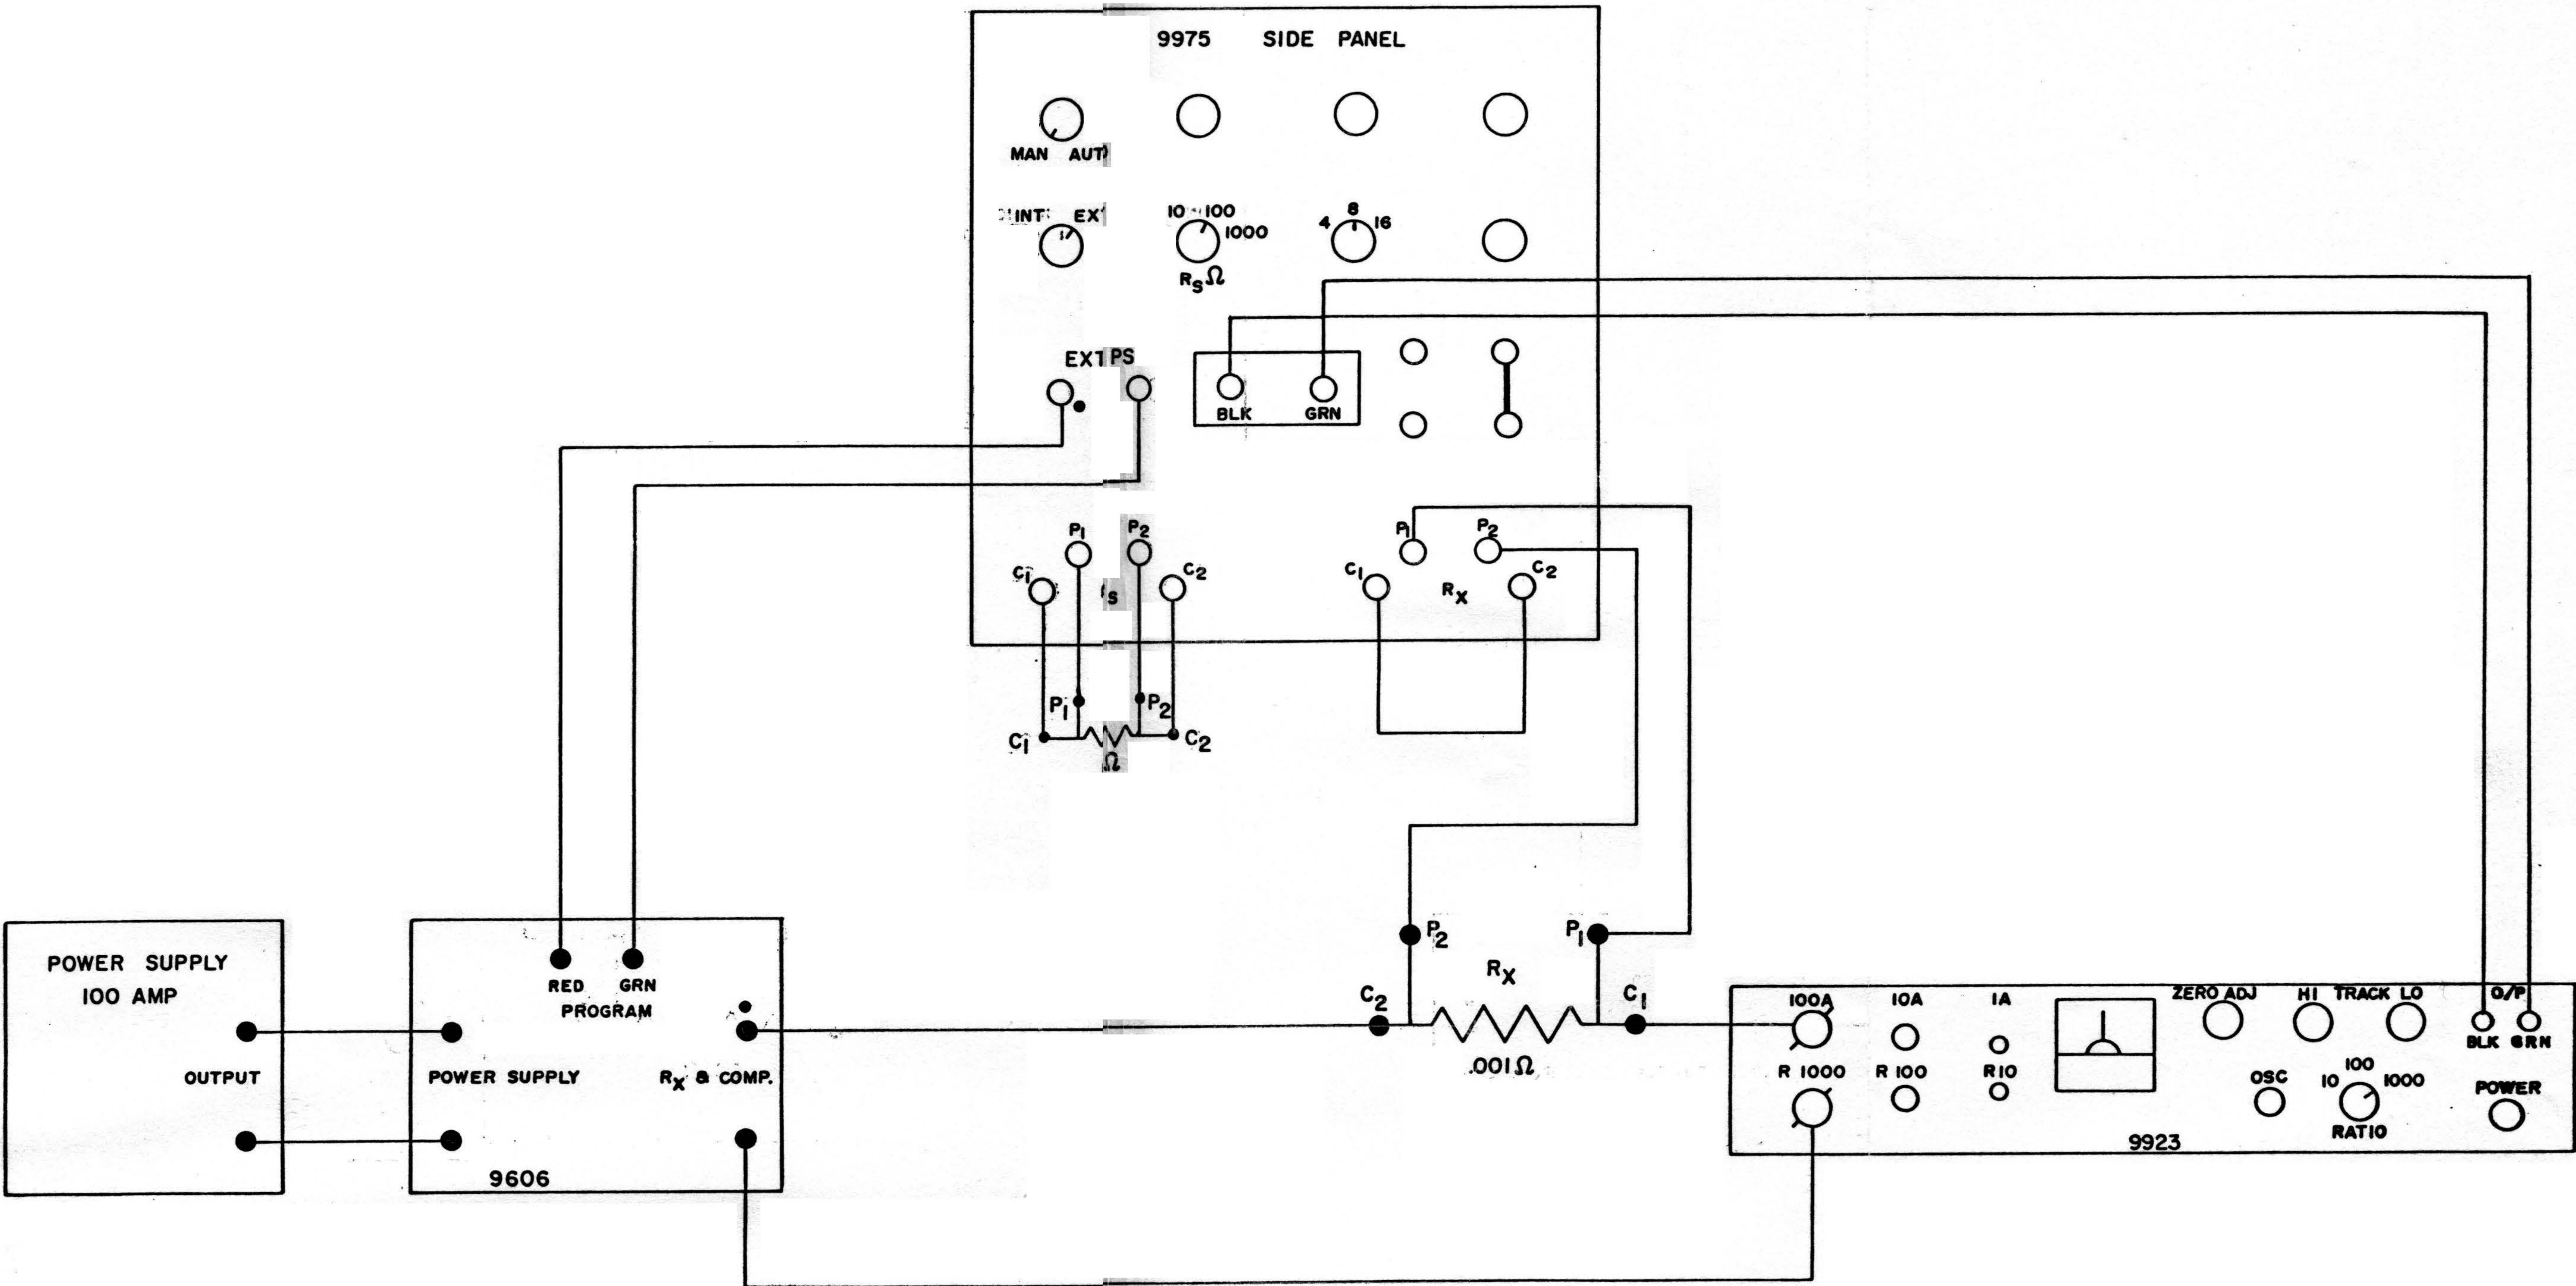

FIG. 2.1
- a) Connect the Model 9923 as shown in Fig. 2-1, ensuring that all connections are tight. Remove the range plug ($R_s \leq 1 \text{ k}$ / $R_s \geq 10 \text{ k}$) which is located on the side panel of Model 9975 and replace it with Model 99753 plug. Store the range plug in a safe place.